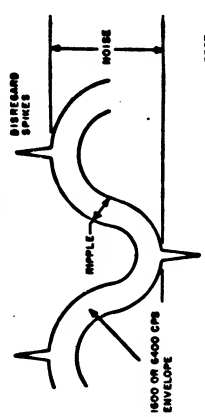

Figure 1. Typical Ripple and Noise Pattern
Letter-number combinations in parentheses beneath step numbers denote procedural steps being repeated. GG number is listed in first data sheet entry for each channel. Figure 1 is provided as an aid during performance of ripple and noise measurements.
14. Measure peak-to-peak ripple voltage on oscilloscope, as shown in figure 1, and record.
15. Measure peak-to-peak noise on oscilloscope, as shown in figure 1, and record.